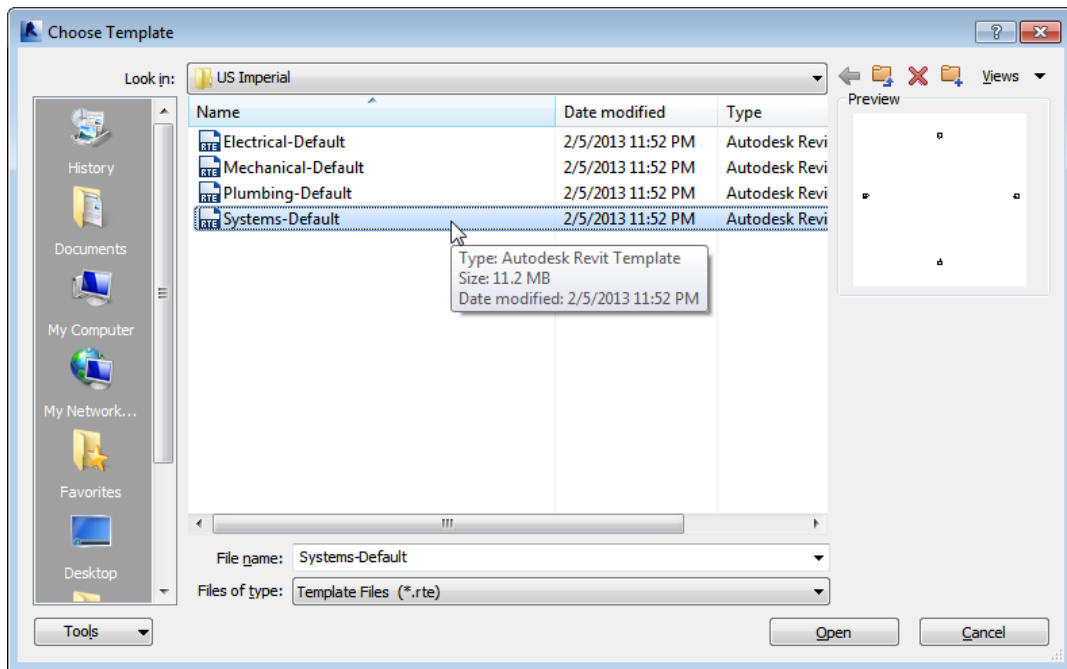

Figure 2-28 The Choose Template dialog box
2. Project Units: Refer to Figure 2-28
- c. Specify the Project Units, refer to Figure 2-28.
2. In the **Choose Template** dialog box, select the **Systems-Default** template file from the list, as shown in Figure 2-28. For Metric system, select the **Systems-Default_Metric** template file from the list. Choose the **Open** button to assign the selected template file to the **New Project** dialog box.